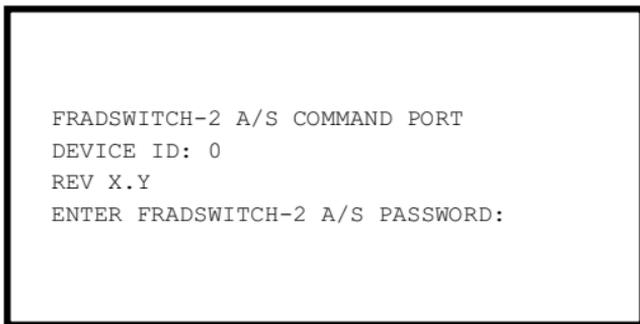

Figure 6-1. Fradswitch-2 A/S opening screen.
- Type the connection command: **CON 00 <CR>**. You can also use the abbreviated form, **C 0 <CR>**. The Fradswitch-2 A/S displays the opening screen (Figure 6-1) of the command facility.